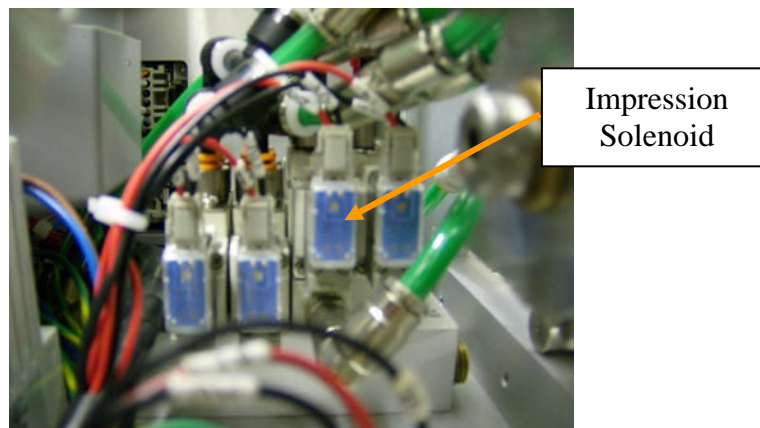

Figure F3: Solenoid Valve Bank
3. Manually activate the Impression Roll solenoid valve to check air cylinder operation (See Figure F3)